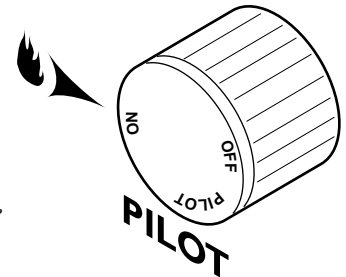

Figure 42 - On Position
Depress and turn the knob counterclockwise  to the “ON” position. See *Figure 42*. It will take less than four (4) seconds for the burner to ignite.